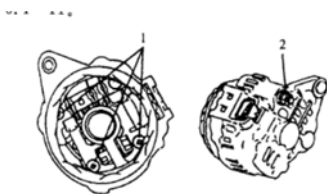

Figure 6.1-11
(8) Slightly move the stator away from the rear casing, loosen the three screws and battery terminal screws, and then disassemble the rotor including the regulator and rectifier assembly. See Figure 6.1-11.